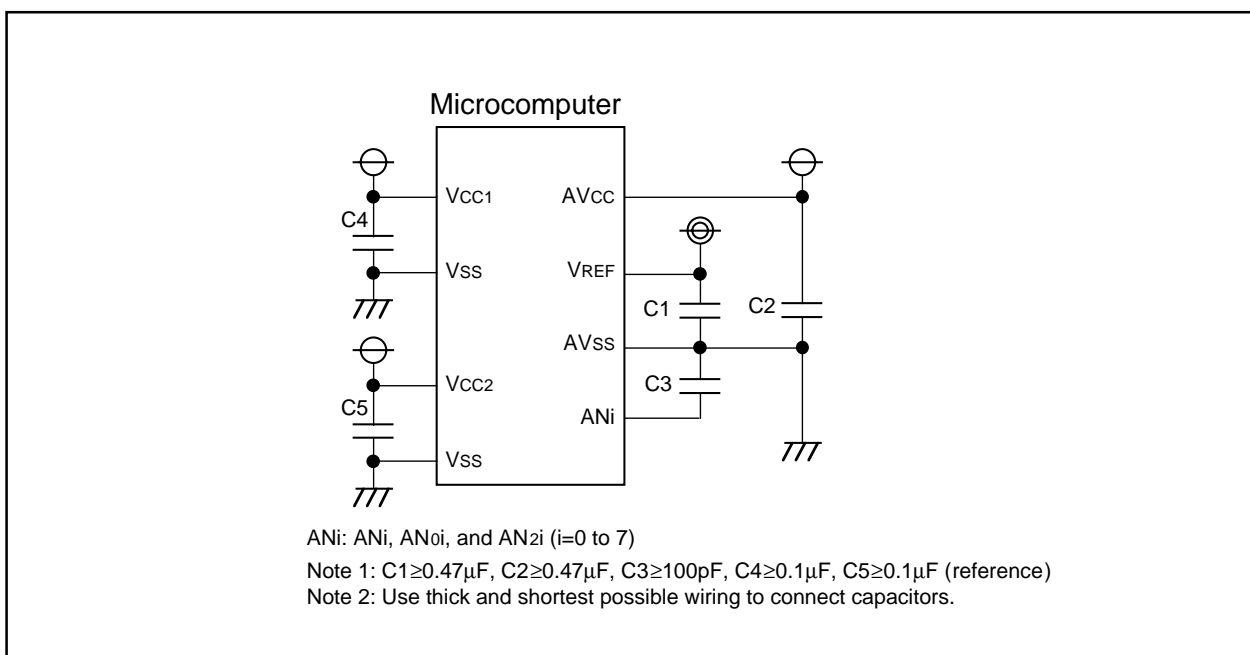

Figure 1.22.11. VCC, VSS, AVCC, AVSS, VREF and ANi Connection
- (1) Make sure the port direction bits for those pins that are used as analog inputs are set to "0" (input mode). Also, if the ADCON0 register's TGR bit = 1 (external trigger), make sure the port direction bit for the ADTRG pin is set to "0" (input mode).
- (2) When using key input interrupts, do not use any of the four AN4 to AN7 pins as analog inputs. (A key input interrupt request is generated when the A-D input voltage goes low.)
- (3) To prevent noise-induced device malfunction or latchup, as well as to reduce conversion errors, insert capacitors between the AVCC, VREF, and analog input pins (ANi (i=0 to 7), ANoi, and ANzi) each and the AVSS pin. Similarly, insert a capacitor between the VCC pin and the VSS pin. Figure 1.22.11 is an example connection of each pin.
- (4) If  $V_{CC2} < V_{CC1}$ , do not use AN00 to AN07 and AN20 to AN27 as analog input pins.
- (5) If the CPU reads the ADi register (i = 0 to 7) at the same time the conversion result is stored in the ADi register after completion of A-D conversion, an incorrect value may be stored in the ADi register. This problem occurs when a divide-by-n clock derived from the main clock or a subclock is selected for CPU clock.